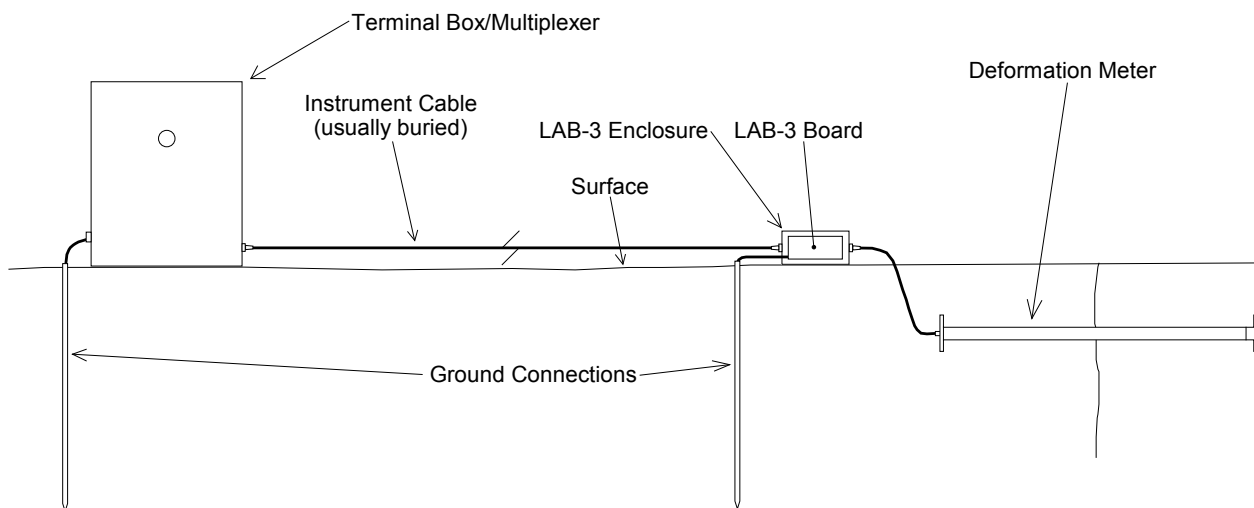

Figure 4 - Lightning Protection Scheme
- Lighting arrestor boards and enclosures are available from Geokon that install near the instrument. The enclosure has a removable top. If the protection board (LAB-3) is damaged, the user may service the components (or replace the board). A connection is made between this enclosure and earth ground to facilitate the passing of transients away from the gauge. See Figure 4. Consult the factory for additional information on these or alternate lightning protection schemes.